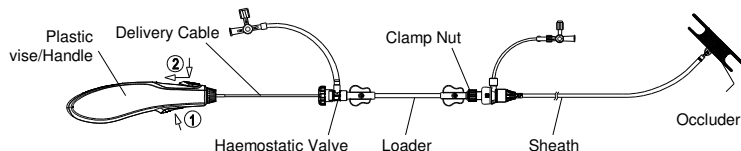

Figure 9. Illustration of releasing the occluder
- Hold the sheath to touch the hub of the occluder, and then pull back the cable gently until it separates from the occluder. Finally remove the delivery cable and sheath from the patient (Refer to **Figure 9**).